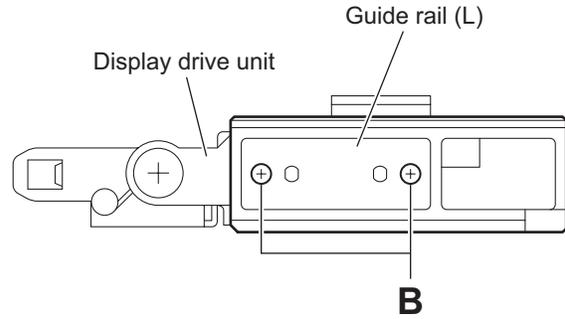

Fig.2
### 3.2.2 Removing the drive gears and forth gear (See Figs.2 to 4)
- From the both sides of the display drive unit, remove the four screws **B** attaching the guide rails (L)/(R). (See Figs.2 and 3.)